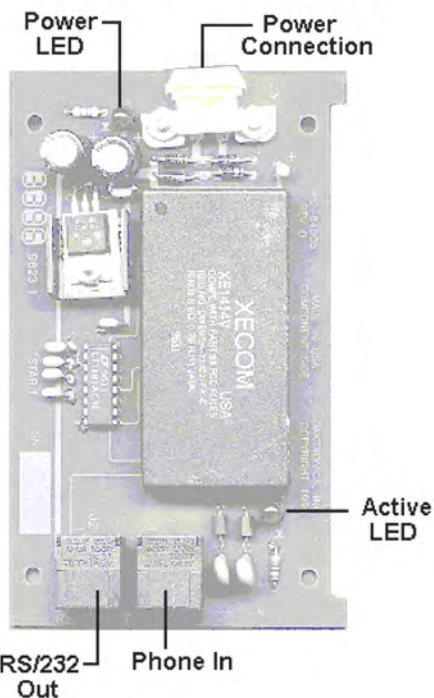

Figure 13: Modem
1. To replace a modem, first disconnect the power and signal connections (refer to **Figure 13** for disconnection of power).